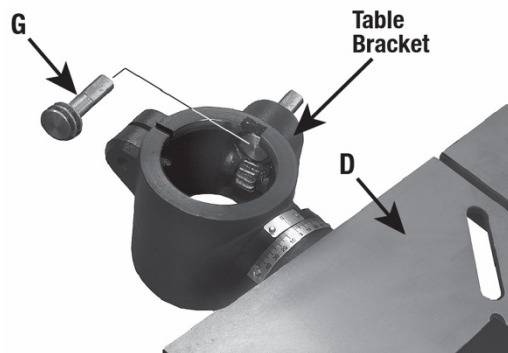

Figure 6-5: Install Worm Shaft
1. Install the worm shaft (G) through the hole in the table bracket (see Figure 6-5). Make sure it meshes with the gear in the table bracket.